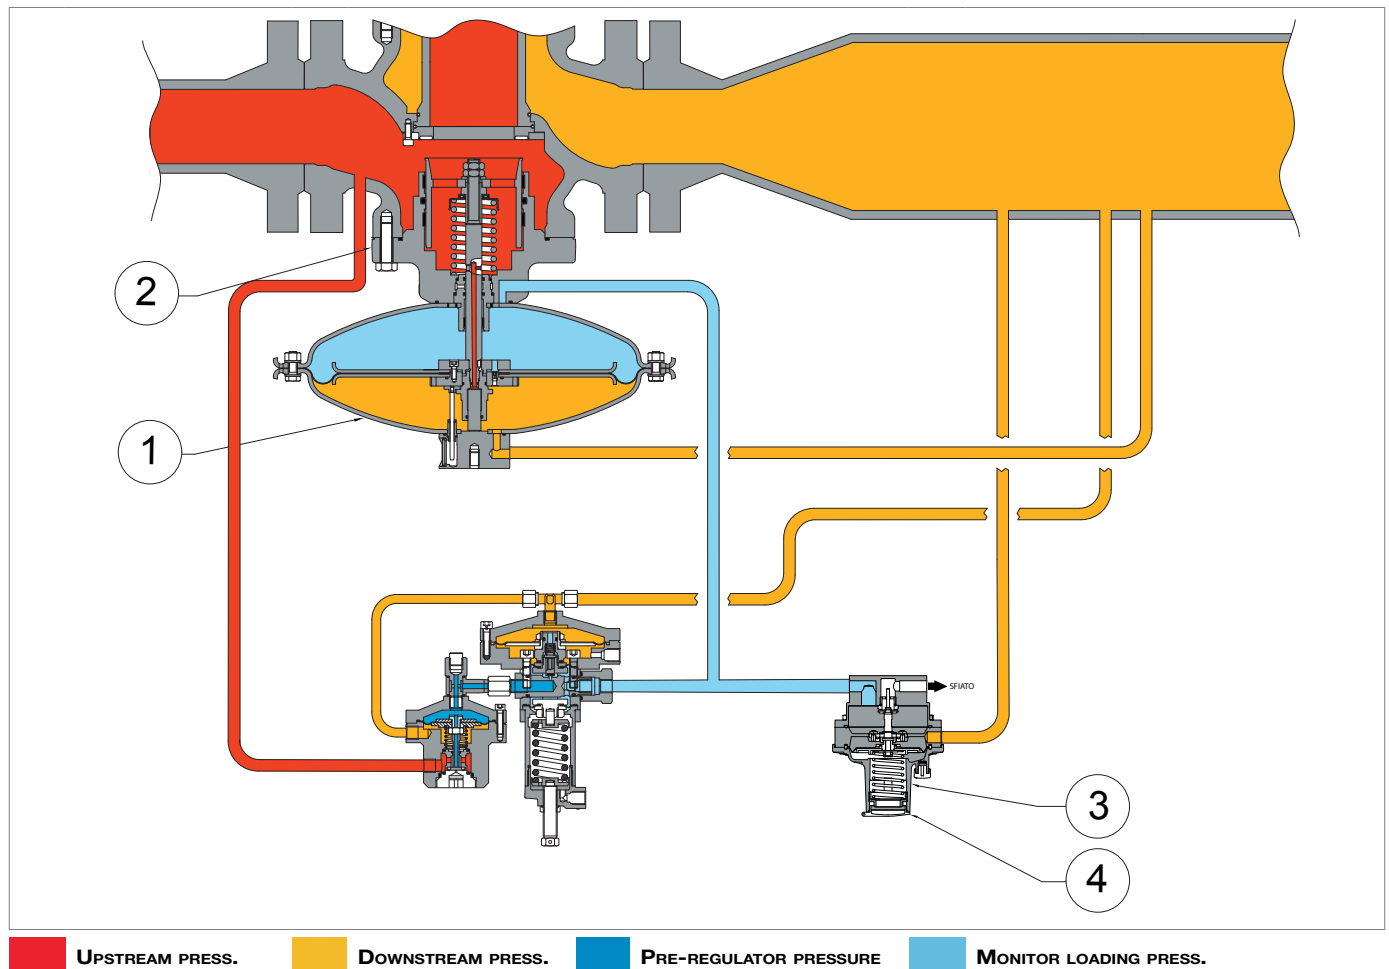

Fig. 4.9. V/25 throttle valve
- V/25 (3, Fig. 4.9), in case of downstream pressure (Pd) up to 0.6 bar
- the adjustment ring nut (4, Fig. 4.9) for valve V/25